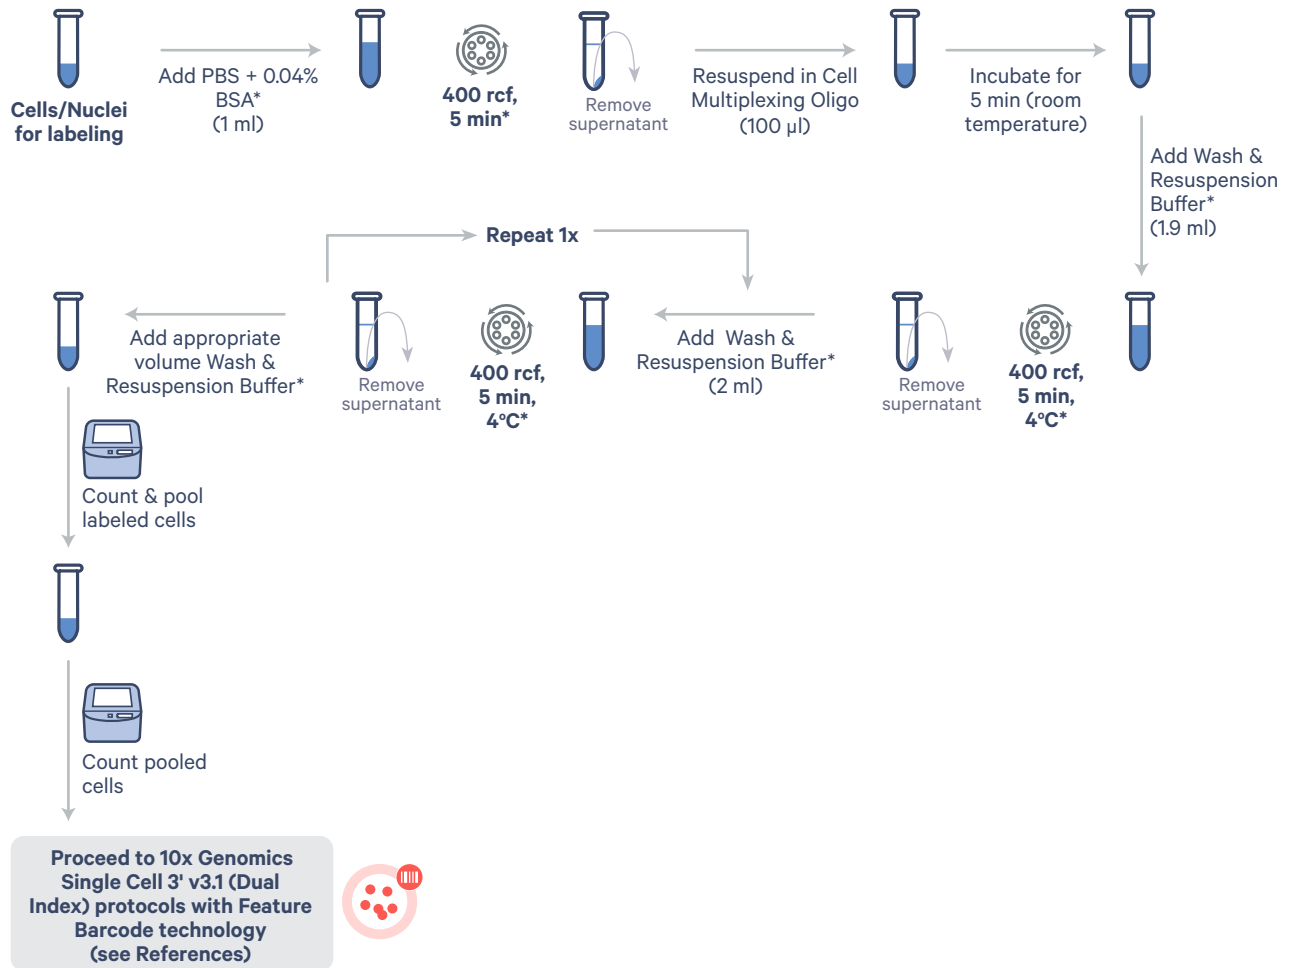

**Figure 3.** Effect of time before loading on 3' CellPlex data shown in the histogram of CMO Counts and gene expression barcode rank plot.
- DO NOT let CMO labeled cells/nuclei sit at room temperature, as this may increase background noise in CellPlex data (Figure 3).